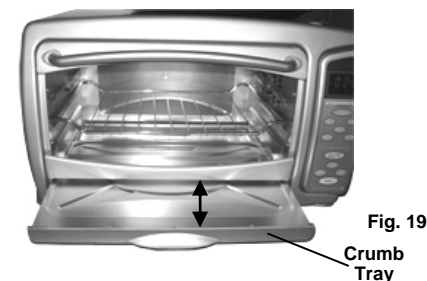

Fig. 19
**REGULARLY REMOVE CRUMB TRAY FROM SLOT AND CLEAN. (Fig. 19)**